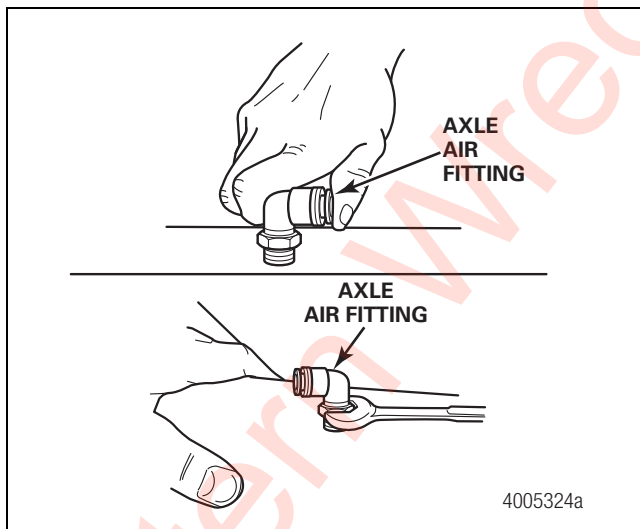
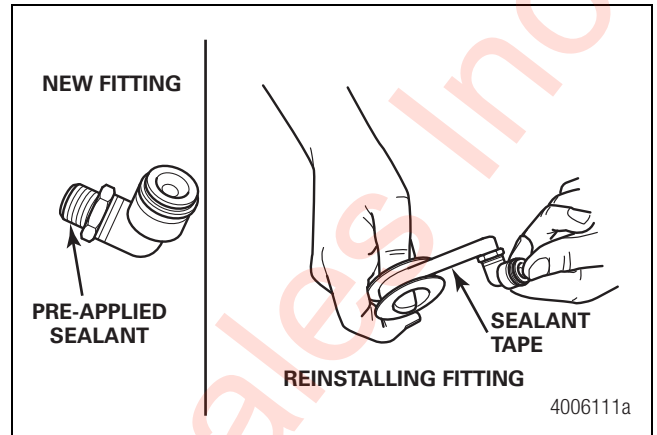

Figure 2.4
Figure 2.5
6. Hand-tighten the axle air fitting into the tapped hole. Then use a wrench to tighten the fitting 2-1/2 additional turns to obtain an air tight seal. Continue to tighten until the fitting faces TOWARD the side of the trailer where you'll install the system control box. Figure 2.4. It is not necessary to apply a sealer when the axle air fitting is first installed if current production fittings have sealant pre-applied to the threads. If the part is removed, however, apply a sealant tape to the threads prior to reinstalling. Figure 2.5.